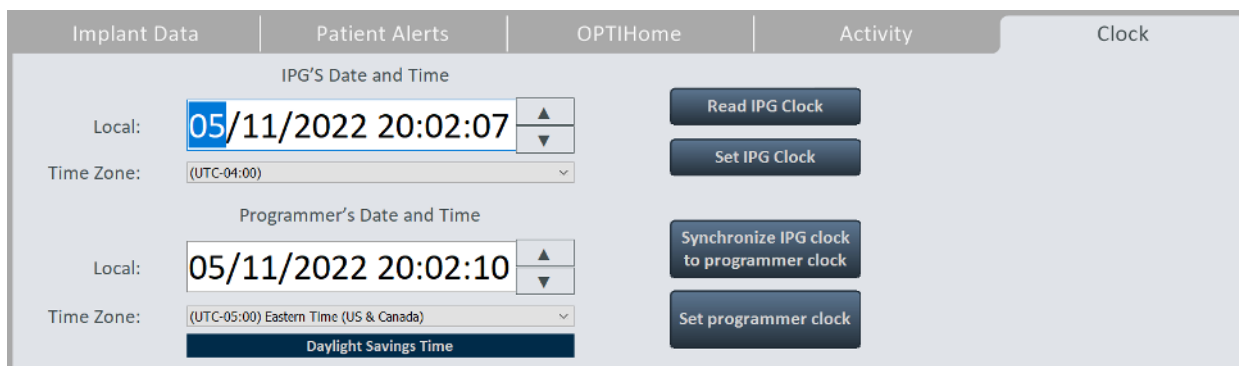

Figure 44: Clock Panel (Time Zone in Daylight Savings Time)
- **Time Zone:** Sets and displays the current time zone of the Intelio Programmer and if the time zone is currently in Daylight Saving Time or Standard Time (see **Figures 44 and 45**)